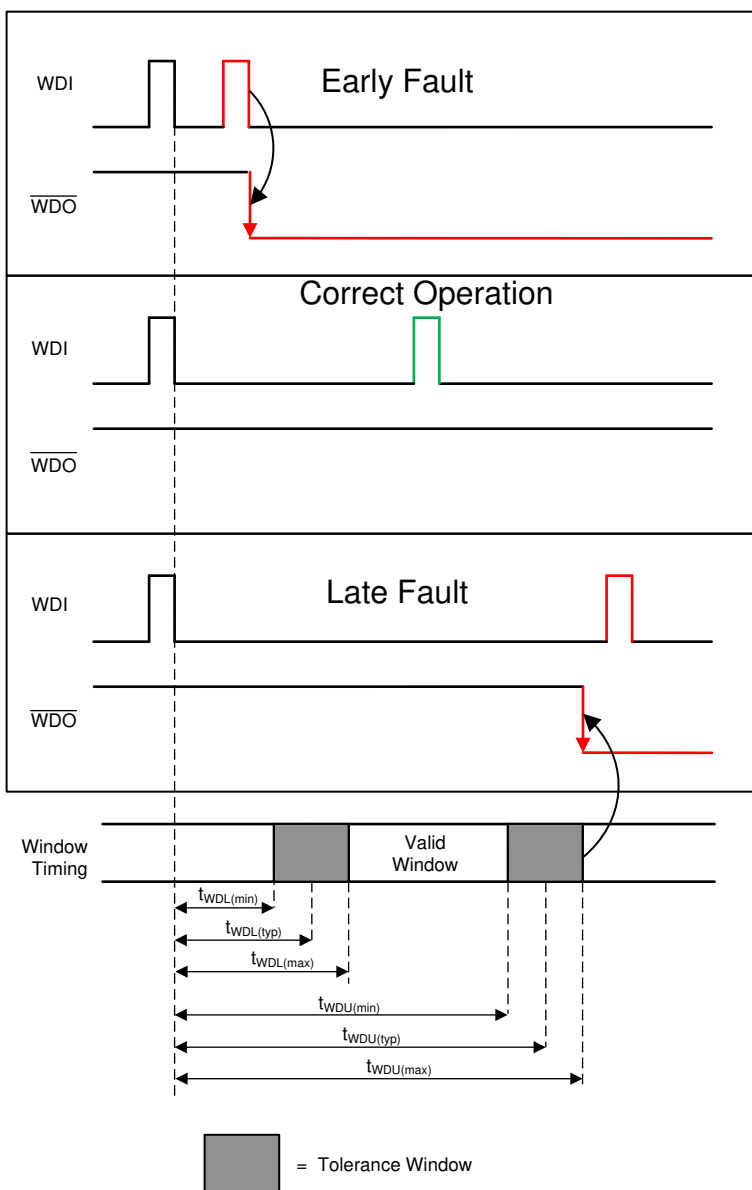

图 6-2. TPS3850 Window Watchdog Timing
A. See 图 6-2 for WDI timing requirements.